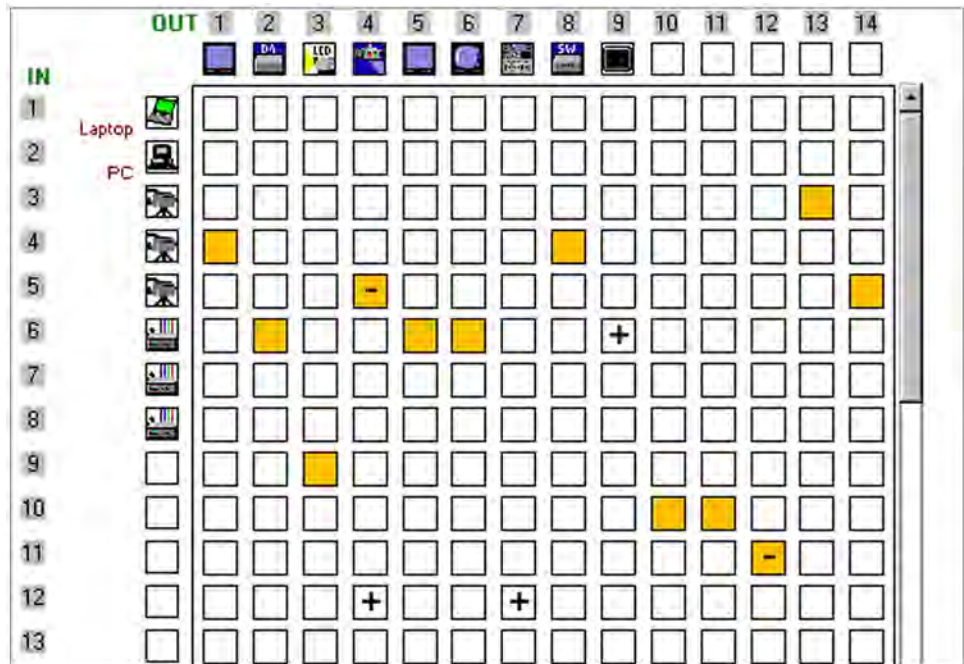

Figure 87. Ties Shown as Crosspoints
- **Numbers in I/O boxes** — Displays the input and output numbers in the I/O boxes in the Matrix window (see the figure 87 on the previous page). You are not able to place icons in the boxes when this option is selected.